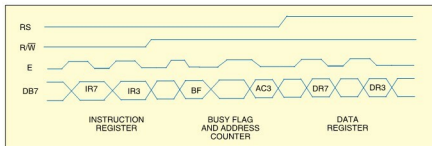

Fig. 2: Timing diagram of LCD control lines for 4-bit data during write operation
The enable control line is used to tell the LCD that the microcontroller is sending the data to it. To send data to the LCD, first make sure that the enable line is low (0). When other control lines are completely ready, make enable pin high and wait for the LCD to be ready. This time is mentioned in the datasheet and varies from LCD to LCD. To stop sending the data, bring the enable control low (0) again. Fig. 2 shows the timing diagram of LCD control lines for 4-bit data during write operation.